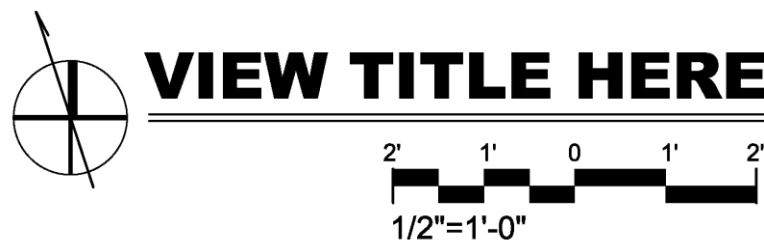

Figure 205-2. Placement of North Arrow Symbol
- B. In the illustration above, 3/32" text (the minimum allowable) is shown for the distance designations for all graphic scales because of the limited space available. The drawing scale designation text is shown at 1/8". These text heights were selected for graphic clarity. Graphic scales are to be right justified⁴ and 1/4" below the drawing title, all located in Paper Space whenever possible -- see Figures 205-2, 206-1 and 206-2 for examples.